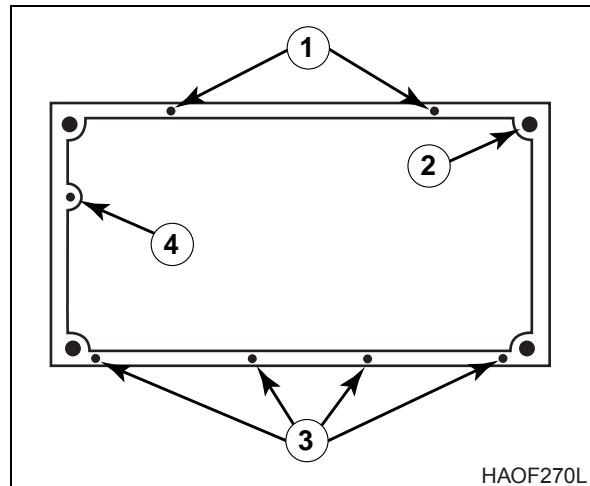

Figure 4
17. Remove four mounting nuts from four corners of cabin floor (2, Figure 4).
18. Remove four hex bolts (3, Figure 4) from door side of cabin floor.
19. Remove two hex bolts (1, Figure 4) from right side of cabin floor and one bolt (4) under front window of cab floor.
3. Install four mounting nuts on four corners of cabin floor (2, Figure 4).
4. Install four hex bolts (3, Figure 4) in door side of cabin floor.
5. Install two hex bolts (1, Figure 4) in right side of cabin floor and one bolt (4) under front window of cab floor.